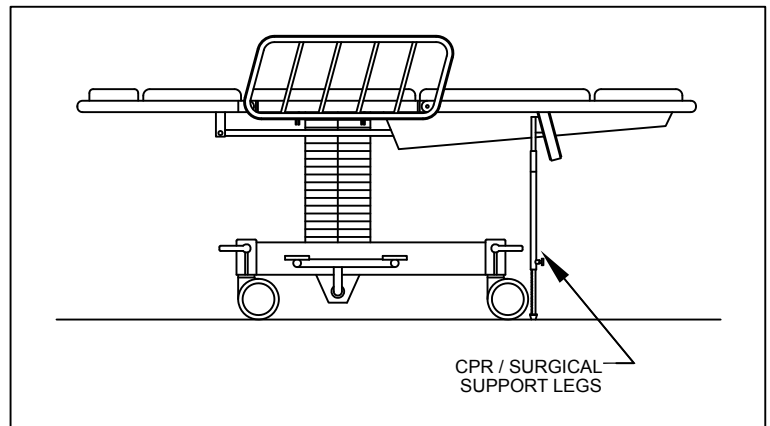

FIGURE 3-8
- ⚠ WARNING: TIPPING HAZARD —** The CPR / Surgical Support Legs should be used at any time when the unit is in the horizontal position, as shown in Figure 3-8.
The CPR / Surgical Support Legs should be used at any time when the unit is in the horizontal position, as shown in Figure 3-8.